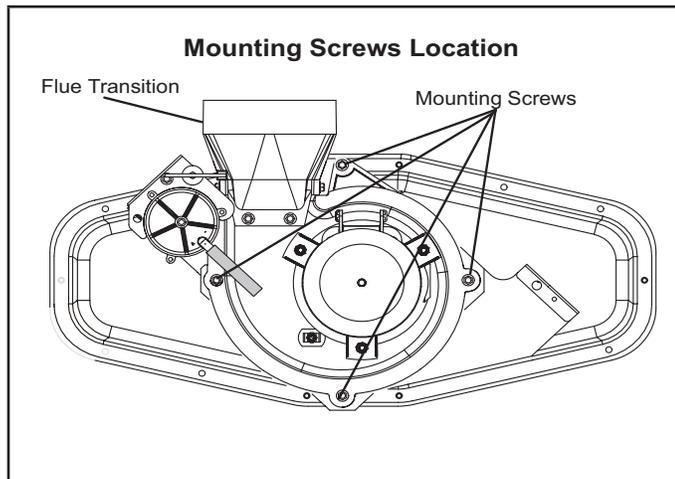

FIGURE 14
- 1 - Remove the four mounting screws (figure 14) which secure the combustion air inducer / pressure switch assembly to the orifice plate. Lift the assembly and rotate it 90 degrees clockwise or counterclockwise to either the 3 o'clock position or to 9 o'clock position. Resecure with four screws. Gasket should be left in place.